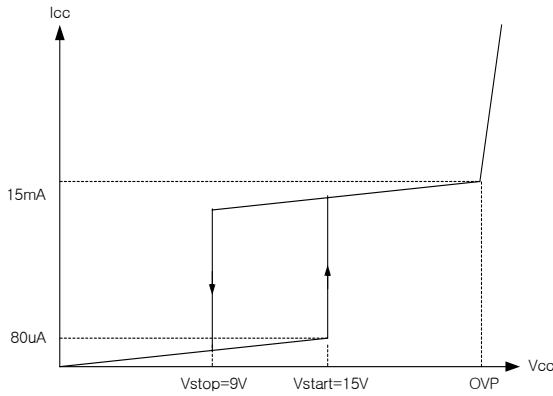

Figure 1. Start up with hysteresis
**1. Start up :** To guarantee stable operation of the control IC, FS8S0965RCB has UVLO circuit with 6V hysteresis band. Figure 1 shows the relation between the supply current ( $I_{cc}$ ) and the supply voltage ( $V_{cc}$ ). Before  $V_{cc}$  reaches 15V, the FPS consumes only startup current of  $80\mu A$ , which is usually provided by the DC link through start-up resistor. When  $V_{cc}$  reaches 15V, the FPS begins operation and the operating current increases to 15mA as shown. Once the control IC starts operation, it continues its normal operation until  $V_{cc}$  goes below the stop voltage of 9V